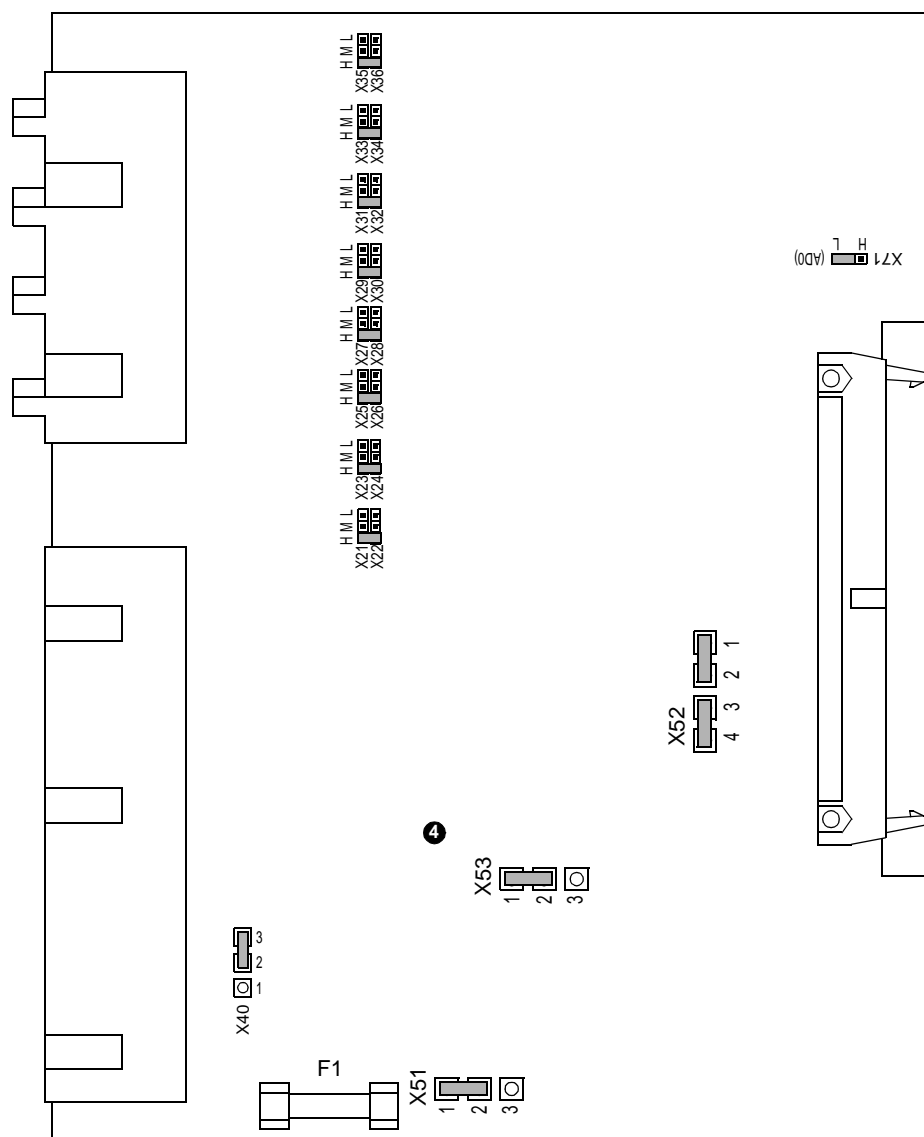

Figure 8-9 Input/output module I/O-1 with representation of the jumper settings required for the module configuration
- ☐ At one end, disconnect the ribbon-cable between the front cover and the CPU board (❶). To disconnect the cable, push up the top latch of the plug connector and push down the bottom latch of the plug connector. Carefully set aside the front cover.
- ☐ Disconnect the ribbon-cables between the CPU board (❶) and the I/O boards (❷❸).
- ☐ Check the jumpers according to Figures 8-9 to 8-12. Change or remove the jumpers as necessary.